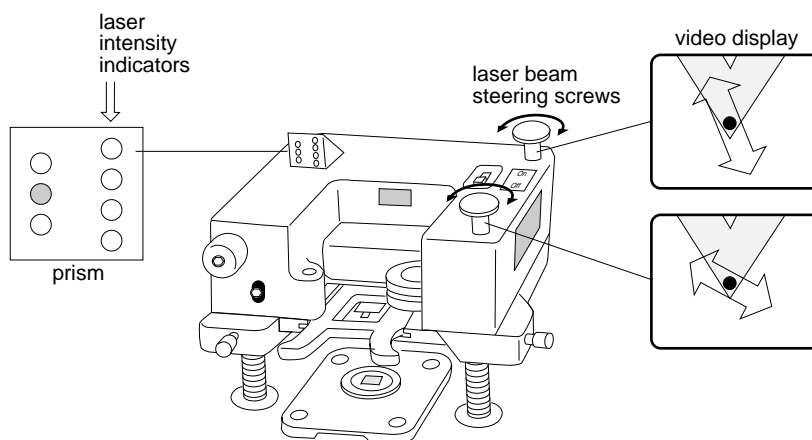

Figure 2-22. Adjusting laser intensity using the laser beam steering screws.
3. If the laser beam is not reflecting off the back of the cantilever tip, then you need to adjust the position of the laser beam. The controls for adjusting the laser beam position are pictured in Figure 2-22.